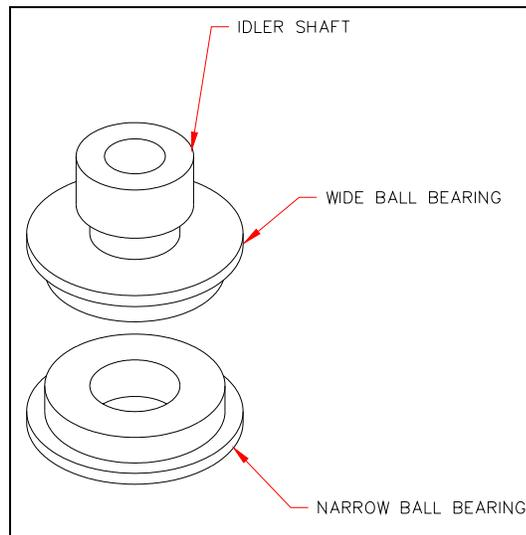

Figure 11-22 Idler Bearing Assembly
- 2 Install the new wide bearing on the idler shaft first, then install the new narrow bearing on the idler shaft (Figure 11-22). Repeat for each assembly.